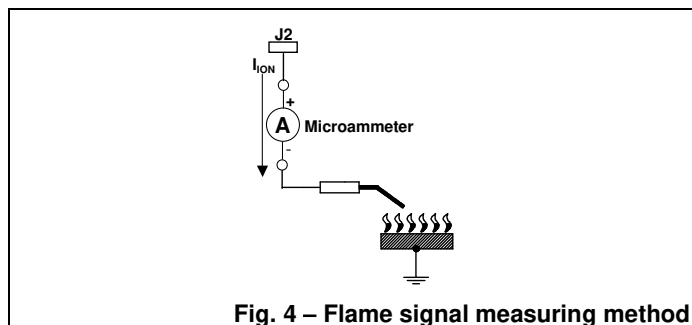

Fig. 4 – Flame signal measuring method
- the level of the flame signal should be high enough (see Fig. 4);